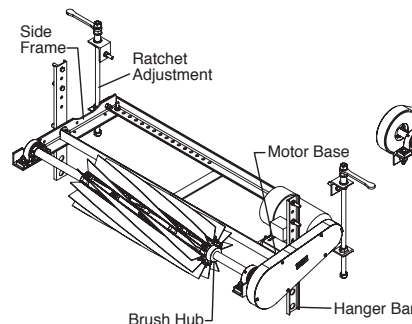

Figure 1: SBR configured with the motor mounted on top of the frame and the brush bearings mounted to the inside of the side frame
STEP 1 CONFIGURATION: These instructions illustrate the SBR assembled with the motor mounted on top of the frame and on the left side of the conveyor, and with the brush assembly mounted on the inside of the side frames [Figure 1].